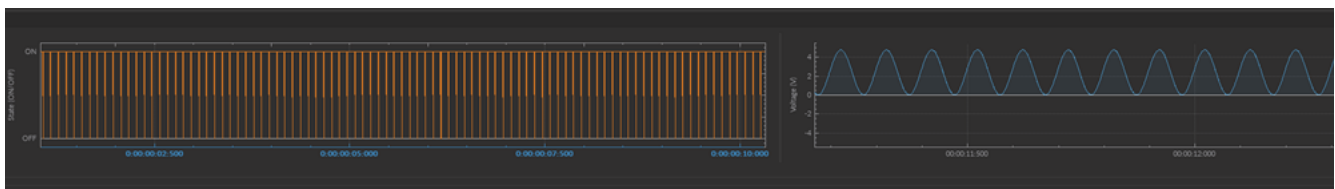

Figure 6.51: Acquisition View - Output graph
- Analog output channels display an **Active state** graph (Fig. 6.51, left panel). This graph displays whether the channel is outputting a signal (On, $V \neq 0$) or not (Off, $V = 0$).
- Output channels display a **Preview** graph (Fig. 6.51, right panel), showing a preview of the pulse sequence.